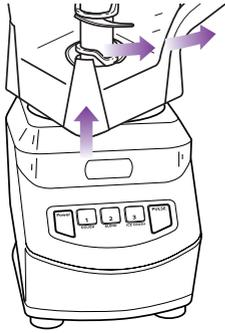

Fig. 7
- 8 To remove the container, press the power button (⏻) to turn the appliance “Off”. Wait for the attachment to stop moving before removing. (Fig. 7)